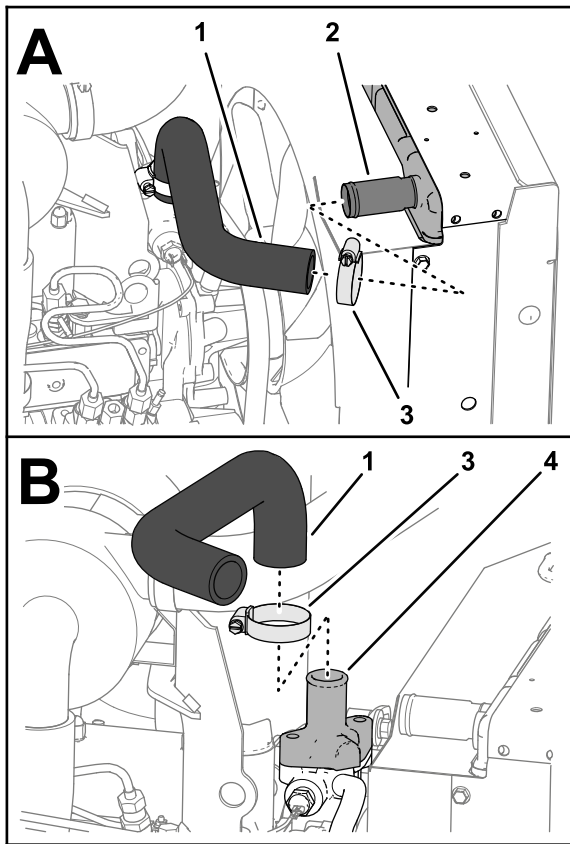

Figure 17
4. Remove the hose clamp that secures the upper radiator hose to the inlet of the radiator, and separate the hose from the radiator (Figure 17).
5. Remove the hose clamp that secures the upper radiator hose to the thermostat housing of the engine, and remove the hose from the engine (Figure 17).